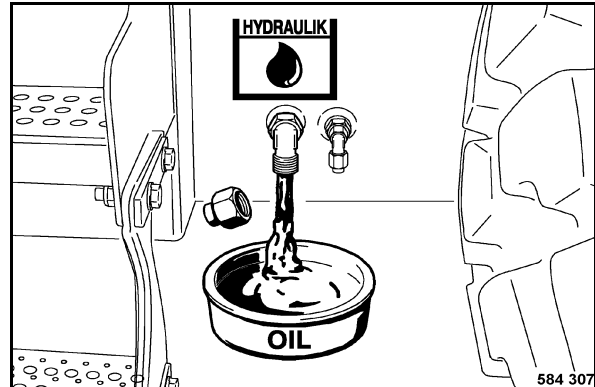

Fig. 173
- Unscrew the plug (Fig. 173) and drain off all hydraulic oil.